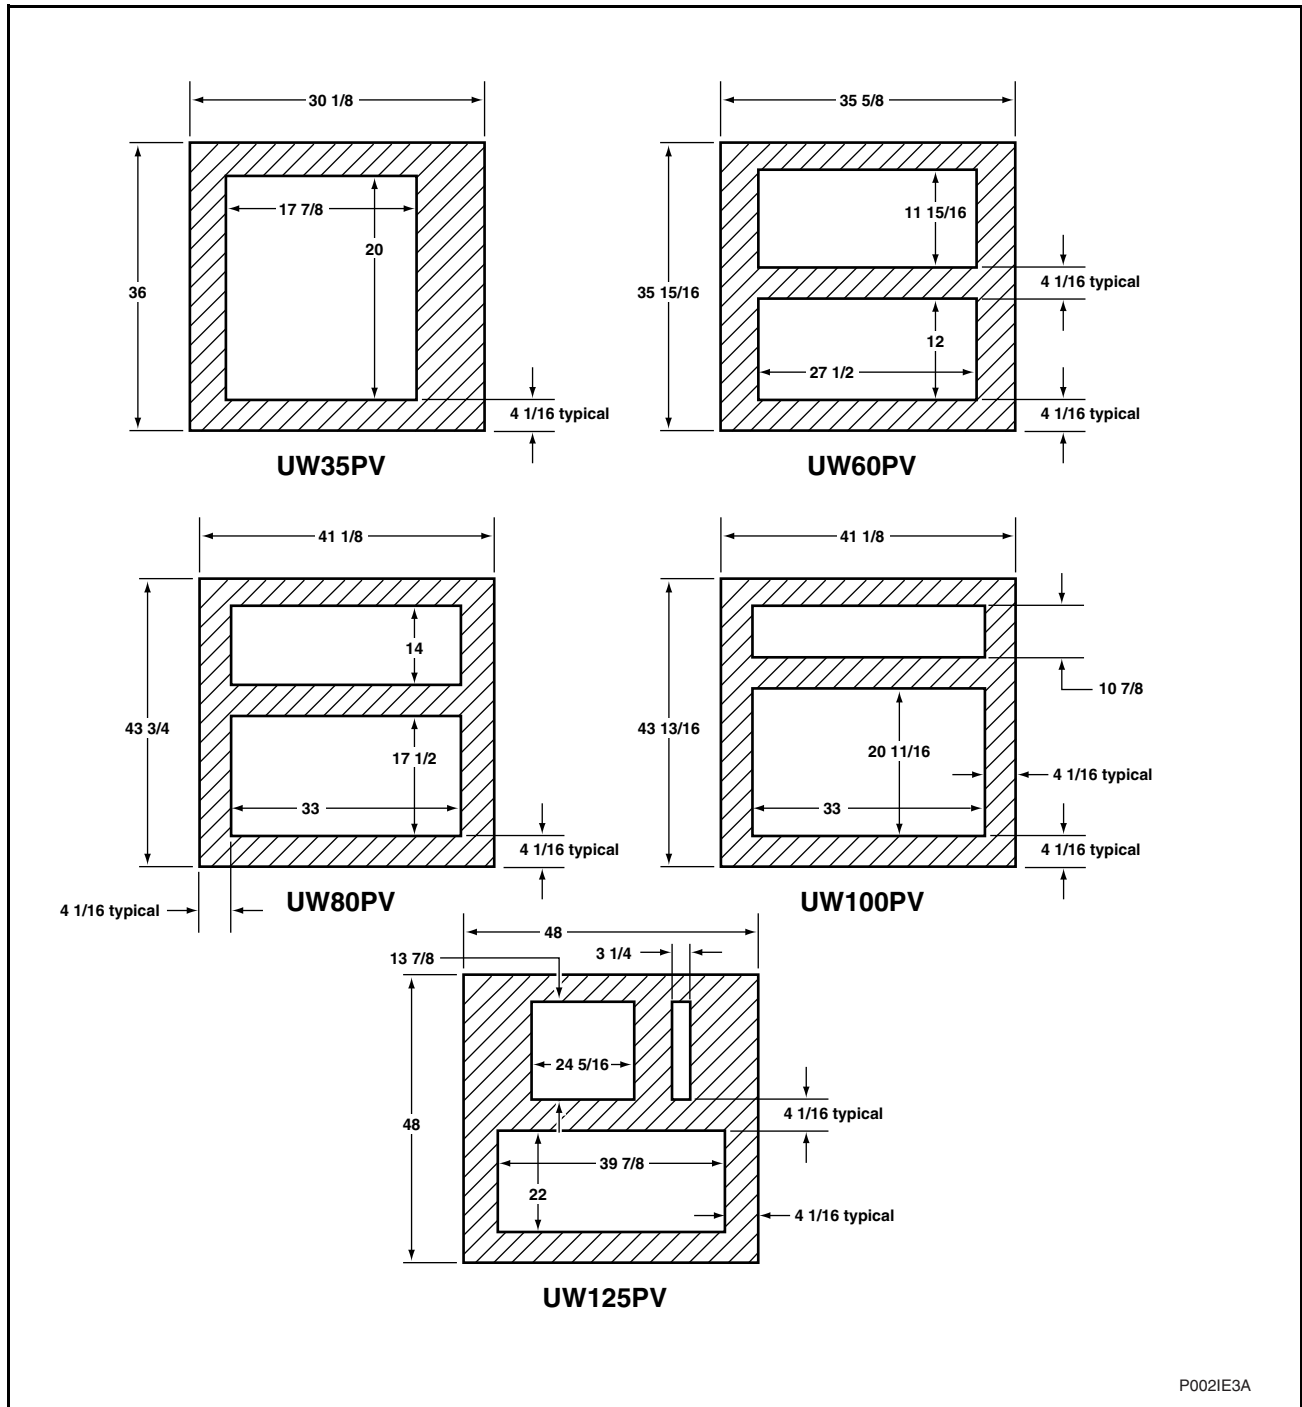

Figure 6
5. Fill the space between the washer-extractor base and the floor with a good quality non-shrinking machinery grout to ensure a stable installation. Grout completely under all frame members. (Remove front panel and expanded metal back panel to gain access to **all** frame members.) See Figure 6. Force grout under machine base until all voids are filled.